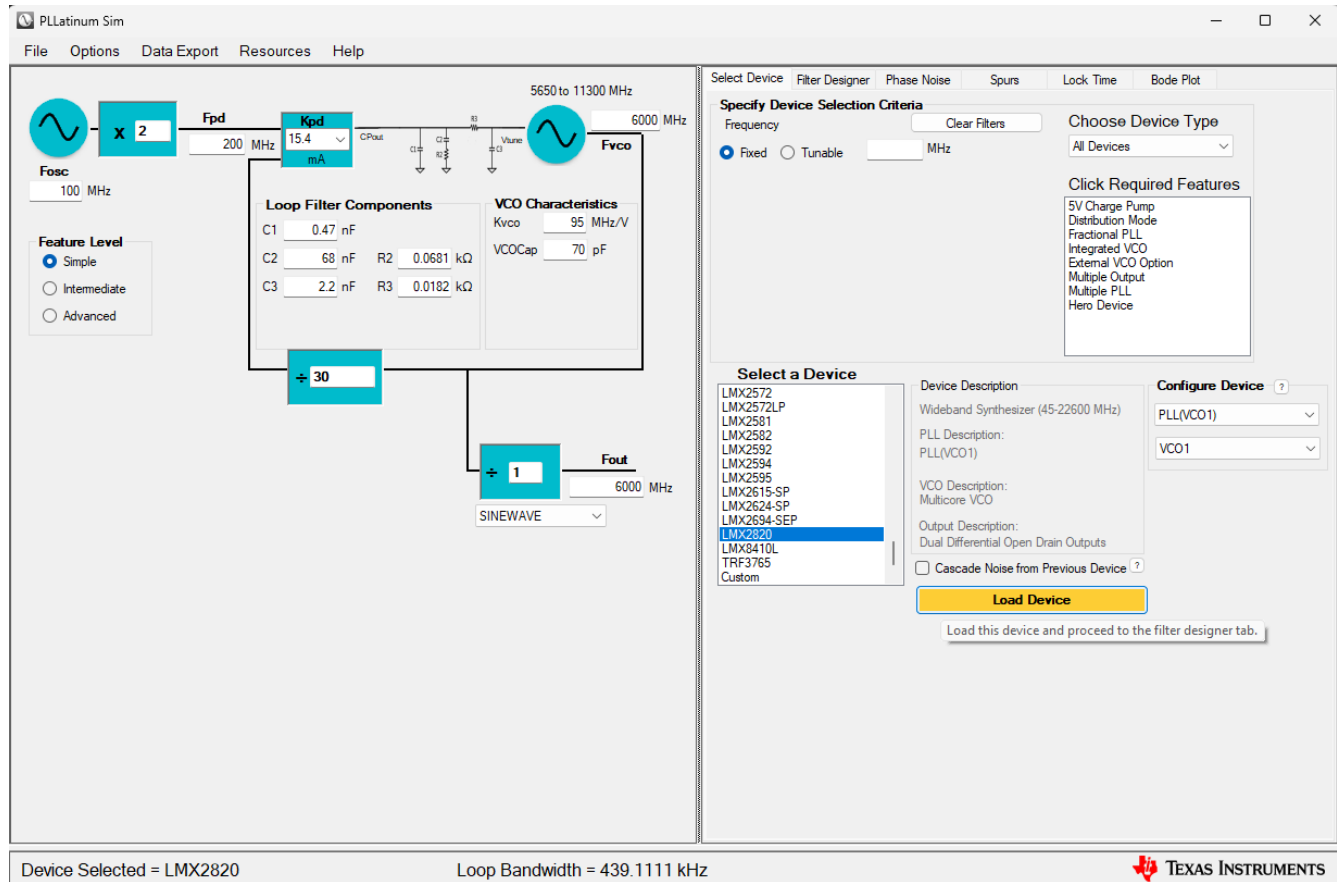

Figure 10-1. Selecting and Loading the LMX2820 into PLLatinum Sim
1. Load the clock under consideration by selecting the desired clock under the *Select a Device* box and then clicking on the *Load Device* button, as shown on Figure 10-1. For this example, use the LMX2820.